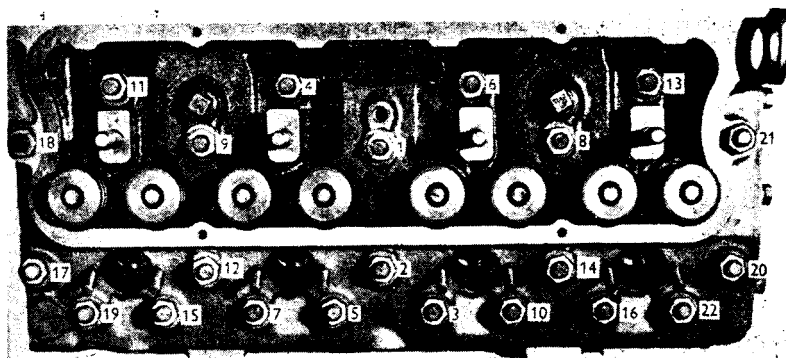

Fig. 5
2. Remove rocker assembly and check cylinder head nuts and/or setscrews are to the correct torque of 100 lbf ft (13,8 kgf m) or 136 Nm. (See fig. 5).